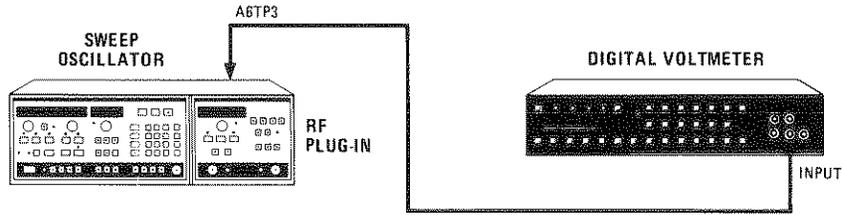

Figure 5-5. -10 Volt Reference Test Setup
1. Connect DVM to A6TP3 and common to A6TP5. (Figures 5-5 and 5-6).